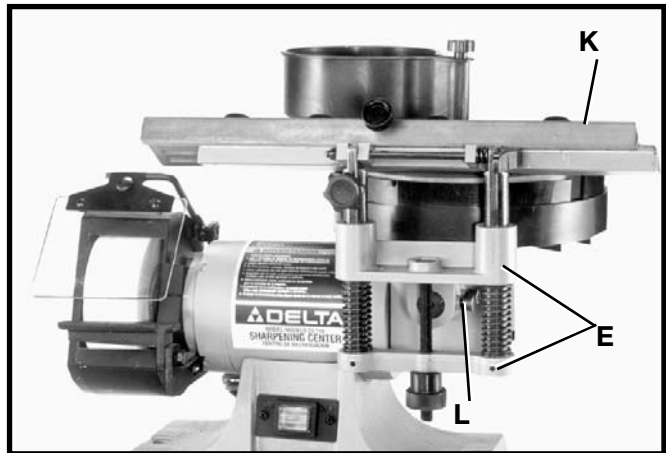

Fig. 42
6. To level sliding tool rest (K) Fig. 42, with the wet grinding wheel, loosen screw (L), rotate complete tool rest base (E) right or left until tool rest (K) is level with the wet grinding wheel and tighten screw (L).